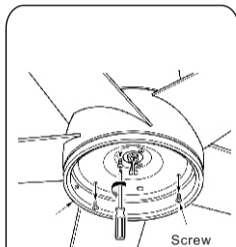

Fig.12
Step 4: Remove the 3 screws from light kit plate And connect the wires between the fan and LED assembly with the connectors.(Fig. 12&13)